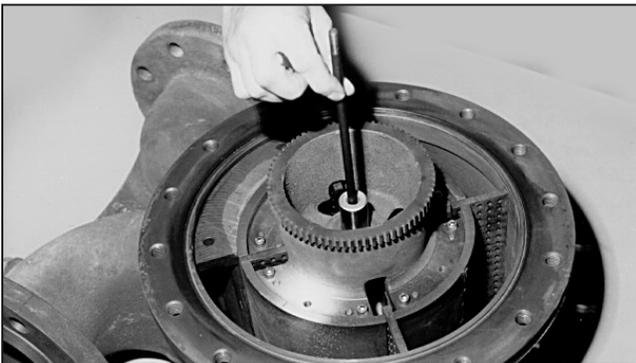

Figure 19 – Thread Tie Rod into the Cone
Thread the tie rod into the cone at least eight (8) turns. Place the washer and nut on the tie rod but do not tighten (Figure 19).